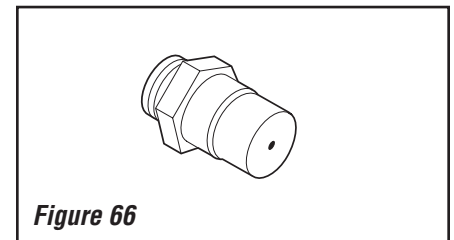

Figure 66
Step 7. Remove the burner orifice from the manifold and replace it with the one provided with the kit. See *Table 14* for orifice sizes required for use with natural gas or propane gas. *Figure 66* illustrated the orifice.